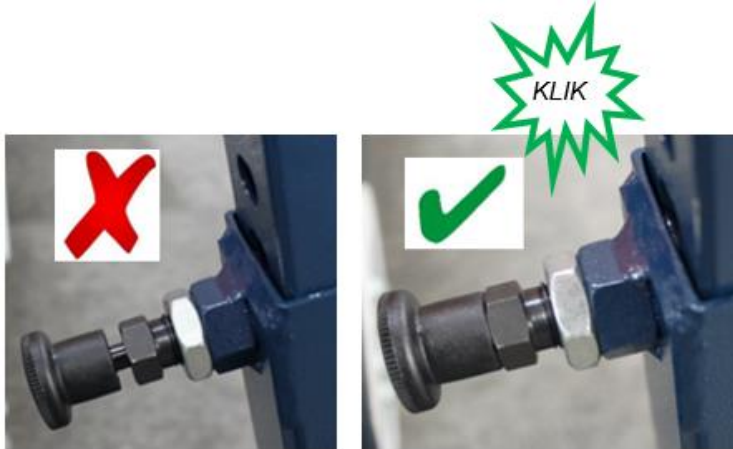

Fig. 8.5; Fixing locking pin *WRONG* and *PROPERLY* in locking hole
Unlock the blocking pins of the stabilizers (A). Slide the posts vertically downwards (B) until the stabilizers are positioned on the ground. Check if the stabilizer feet are rotated into horizontal position! Make sure both stabilizers are extended and the locking pins (C) are locked into a locking hole according to (Fig. 8.5). The locking pins must lock into the locking hole! Turn the handwheels (D) causing the stabilizers to move downwards to the ground. Turn both handwheels until the BENOMIC S500 is stable and horizontal (Fig. 8.6). Repeat these actions for the other side of the pipe rail trolley. To work higher than the listed restrictions\* (10.1) is only possible if all four stabilizers have sufficient bearing capacity on the ground.